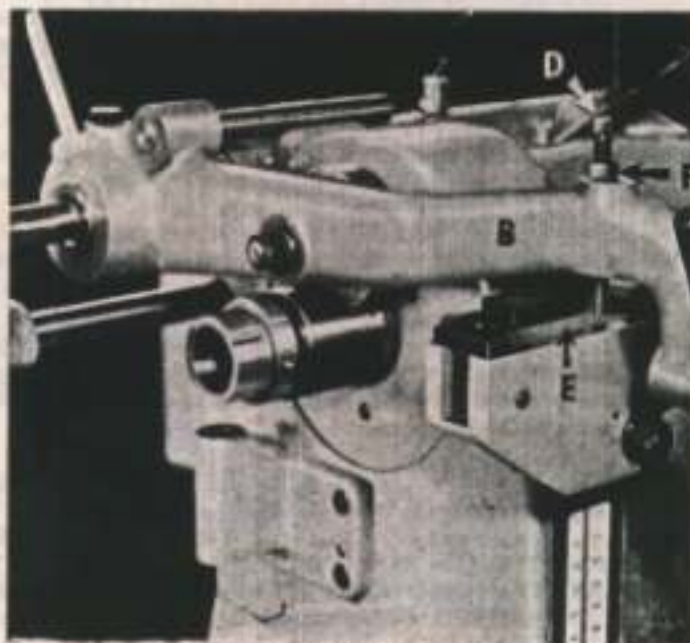

Figure 15
6. Lock guide screw "D" by tightening lock nut "F", Figure 15, against follower arm "B". **DO NOT PERMIT GUIDE SCREW "D" TO TURN WHEN LOCKING NUT "F".**
6. Swing production threading head into cutting position. Be sure guide-way "E" is in position as shown in Figure 15. Then feed threading head slide down until cutting tool almost touches gauge bar. Top surface of cutting tool should be even with gauge surface as shown in Figure 21A. If it is not, adjust tool accordingly. If below centre, shim tool in tool holder to bring top of tool in line with gauge. Should top of tool be above centre, surface grind off bottom of tool.